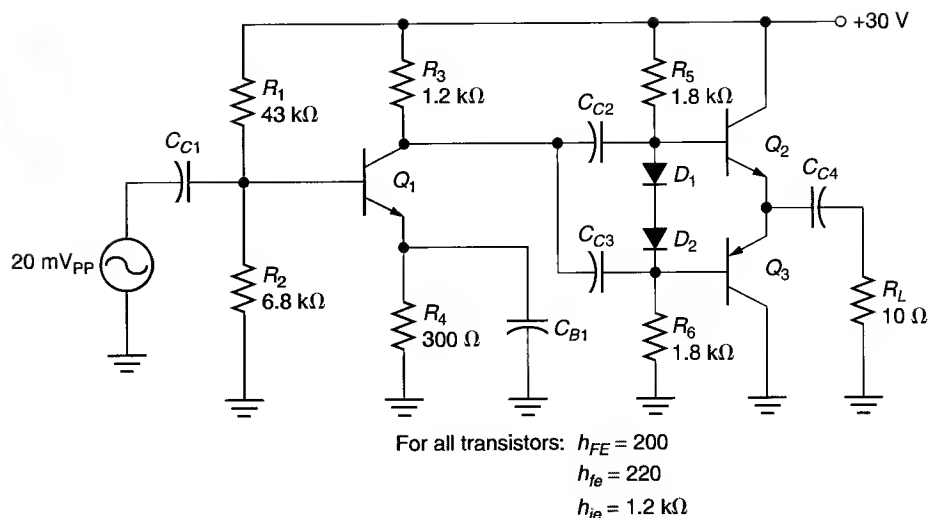

FIGURE 11.61
45. Calculate the values of A_{vT} , A_{iT} , and A_{pT} for the two-stage amplifier in Figure 11.61.
46. Answer the following questions for the circuit in Figure 11.61. Use circuit calculations to explain your answers.
47. Transistor Q_2 in Figure 11.61 is faulty. Can the 2N3904 be used in place of the transistor? Explain your answer using circuit calculations. The spec sheet for the 2N3904 is shown in Figure 6.28. (Hint: The power-handling requirement of the circuit is the primary consideration in this problem.)